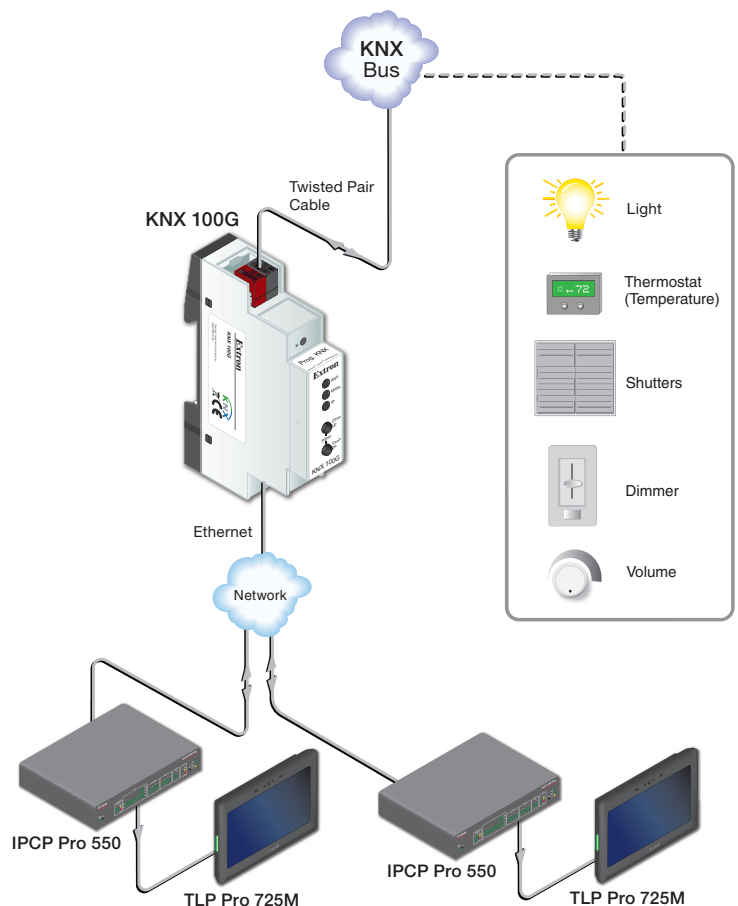

Figure 3. KNX 100G Application Diagram
1. Using a certified KNX twisted pair cable, connect to the KNX BUS located on the top of the device (see figure 3).